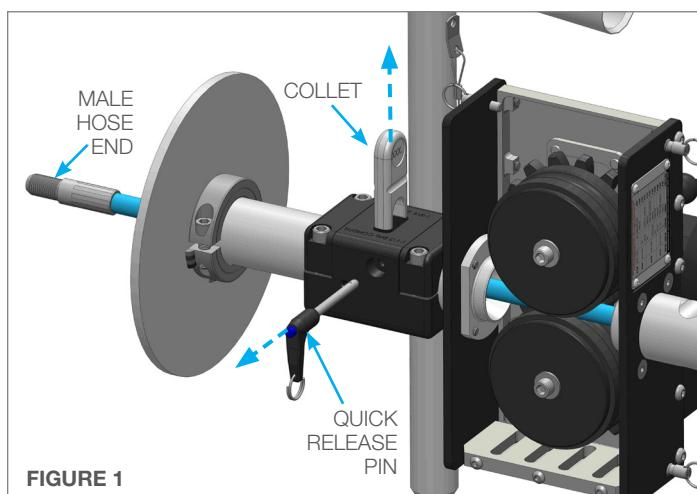
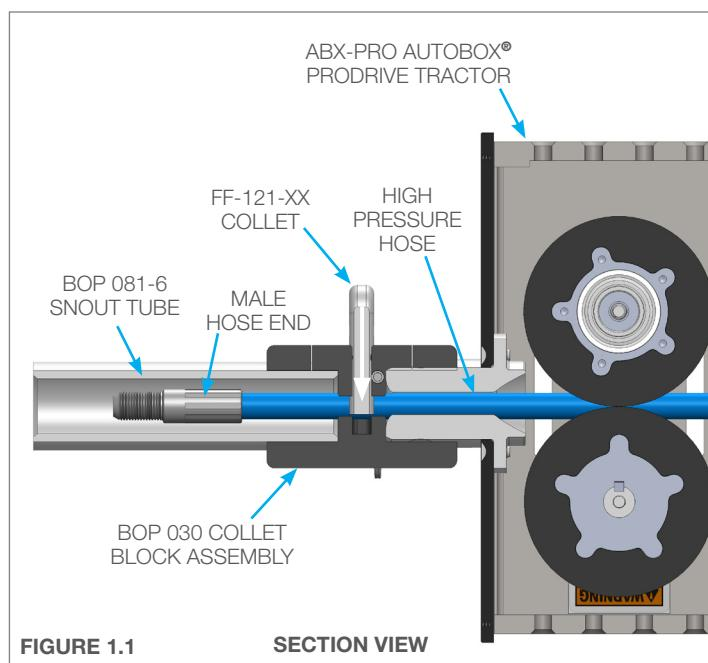

FIGURE 1
FIGURE 1.1
1. Slide the Female Positioner Arm onto the Male Positioner Arm. (**Figure 1**) Line up the incremental holes and push the Quick Release Pin through both positioner arms. (**Figure 1.1**)
- Once the appropriate Collet size for the hose diameter is selected, pull the Quick Release Pin and remove the Collet. Feed the Male Hose End through the ABX-PRO AUTOBOX® PRODRIVE TRACTOR, BOP 030 Collet Block, and BOP 081-6 Snout Tube. (**Figure 1**) Replace the Collet and Quick Release Pin. Pull back on the hose to ensure the Male Hose End does not back out past the Collet. (**Figure 1.1**)
1. Open the back cover of the ABX-PRO Tractor by pulling the top two Quick Release Pins in the outward direction. (**Figure 1**)
1. Choose an alternate size or replacement set of Poly Rollers by using the reference chart in the section below to select the proper sizing. Slide the Poly Rollers onto the Hubs. Then fasten the Hub Outer Plates and Roller Washers onto the Spline Load Rollers with the two 5/16" socket head cap screws. (**Figure 1**)